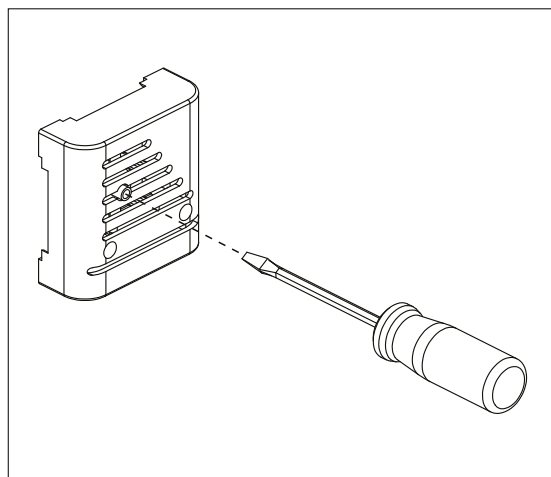

Figure 7.12-1. Reactivation of the overheat protector
- The overheat protector of the heater has tripped: **the cause of the overheat protection tripping must be determined!** The overheat protector can be reactivated by pressing the temperature sensor (Figure 7.12-1).